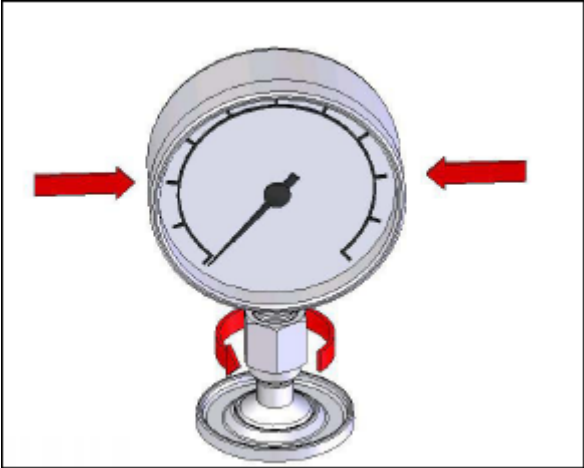

Figure 12. Tighten Gauge
- 4. Hold the instrument steady, while turning the gauge adapter COUNTER-CLOCKWISE until it pulls down onto the O-ring, see Figure 12.